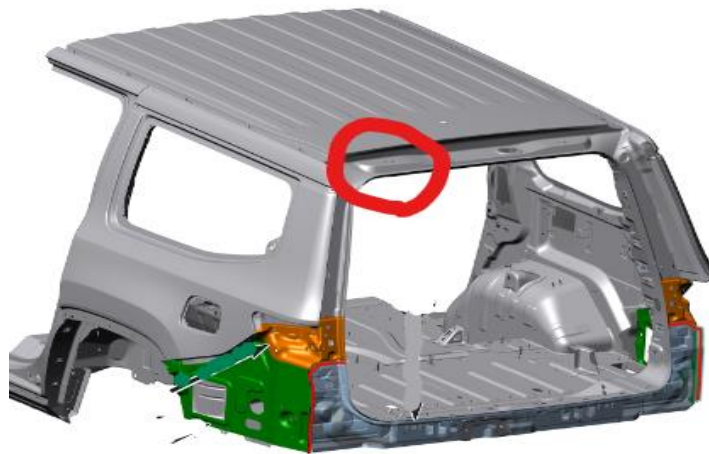

Fig 1
Discussion: With the aid of a helper, drive the vehicle in the manner the customer states the noise can be duplicated. If the noise is loudest heard at the rear roof area on the left-hand side (Fig 1), review and perform the below procedure.
1. If BSR noise heard is from the interior side of the red circled area in Fig 1, remove the headliner. Refer to Service Library 23 - Body / Interior / HEADLINER / Removal and Installation.